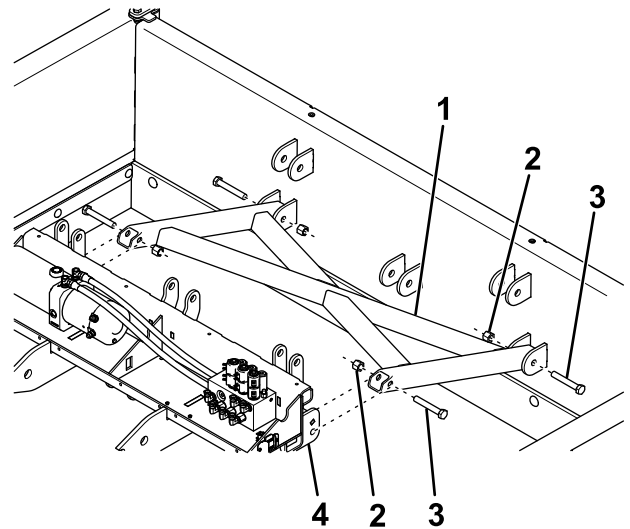

Figure 6
1. Loosely attach the flat end of the lift arm to the lower brackets on the center blade using 2 bolts (5/8 x 4 inches) and locknuts (Figure 6).
2. Loosely attach the angled end of the lift arm to the lower brackets on the coupler assembly using 2 bolts (5/8 x 4 inches) and locknuts (Figure 6).